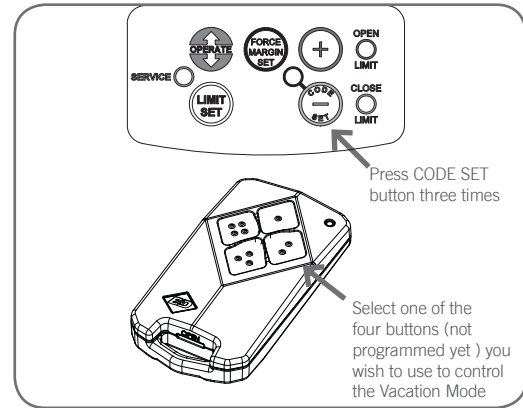

Fig. 32
- Press CODE SET button three times. The CODE SET LED will illuminate and the courtesy light will flash slowly (once every two seconds) to indicate Vacation learning mode is active. **(Fig. 32)**
- Press the same transmitter button again. The CODE SET LED will illuminate for one second and then go out, and the courtesy light will also switch off. This indicates the code has been stored **(Fig. 32)**.